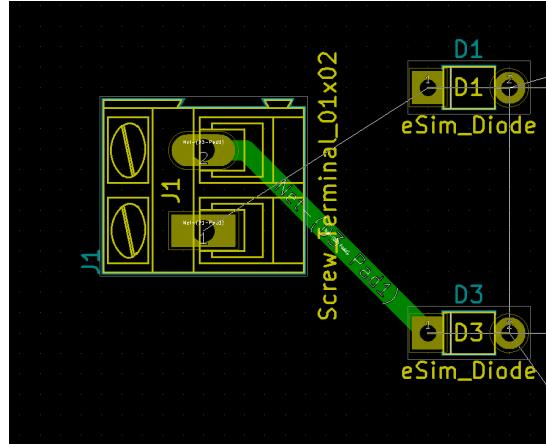

Figure 16.19: Track placed on B.Cu. between Screw_Terminal_01x02 connector and D3 Diode
4. Working layer is B.Cu., Place Track tool is selected earlier. Click the pencil icon tied to cursor on the Node 2 of Screw_Terminal_01x02 and drag the cursor till Node 1 of D3 diode and double click on Node 2 of D3. By double clicking the track will end at Node 2 of D3. Please refer Fig. 16.19 for the mentioned track being placed.